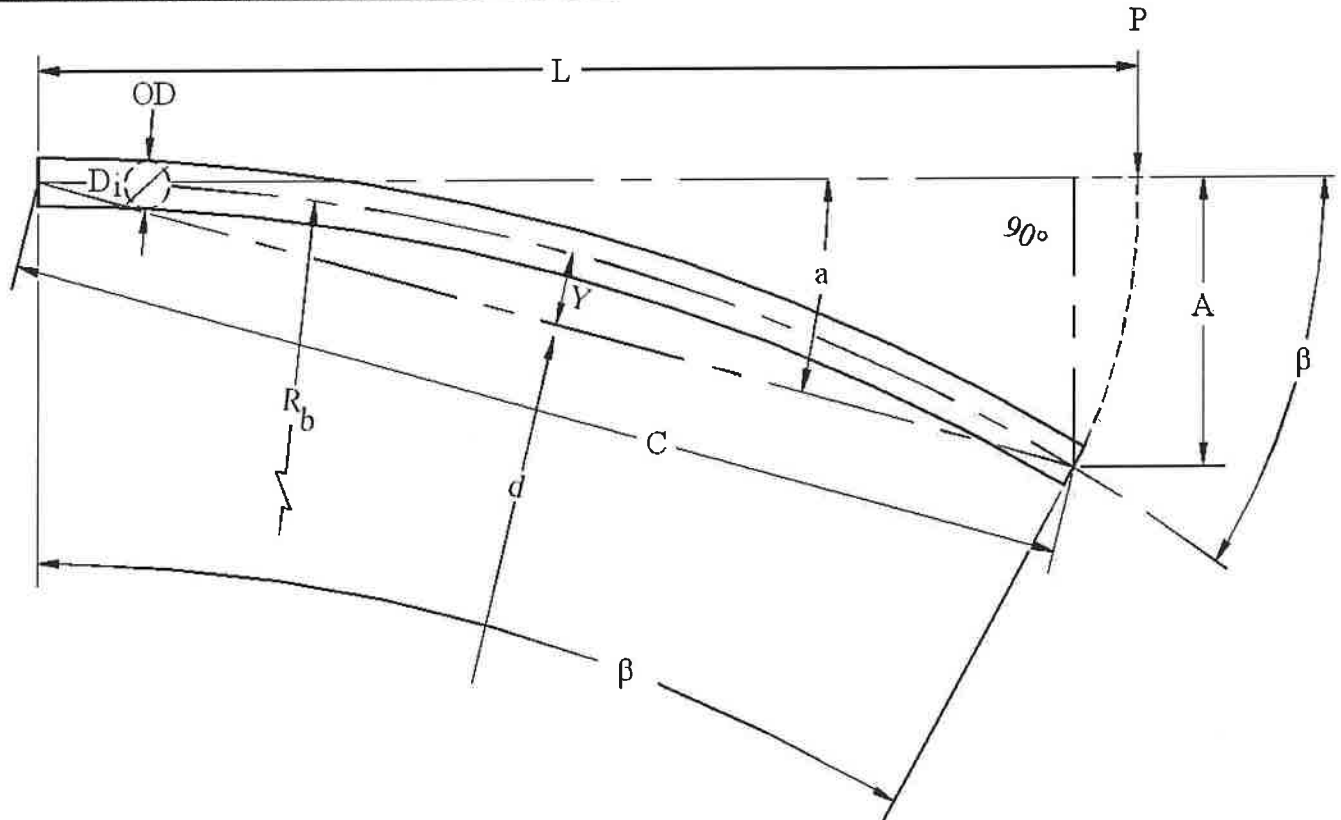

Figure 1: Longitudinal Bending Diagram is provided by the Uni-Bell PVC Pipe Association "Handbook of PVC Pipe Design and Construction".
1. Allowable Longitudinal Bending Method – Figure 1.